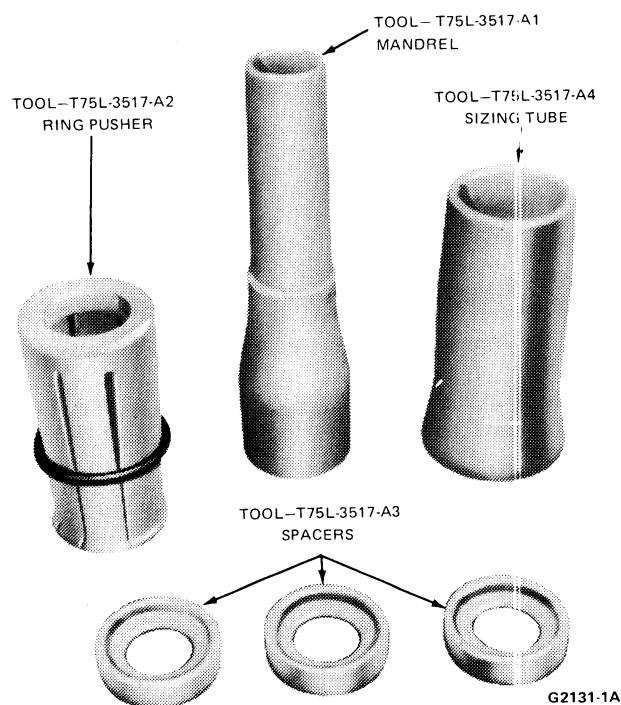

FIG. 18 Seal Installation—Tool T75L-3517-A
7. Remove the sizing tube and check the condition of the rings. Make sure that the rings turn freely in the grooves. Fig. 18 shows the complete set of tools needed to perform the above operations. The tool Kit Number for the complete set is T75L-3517-A.